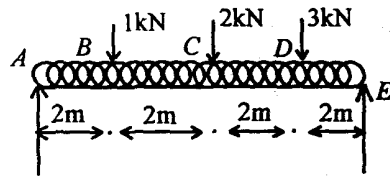

Fig.1
- (b) Draw the SFD and BMD for the following beam shown in Fig. 1. 14